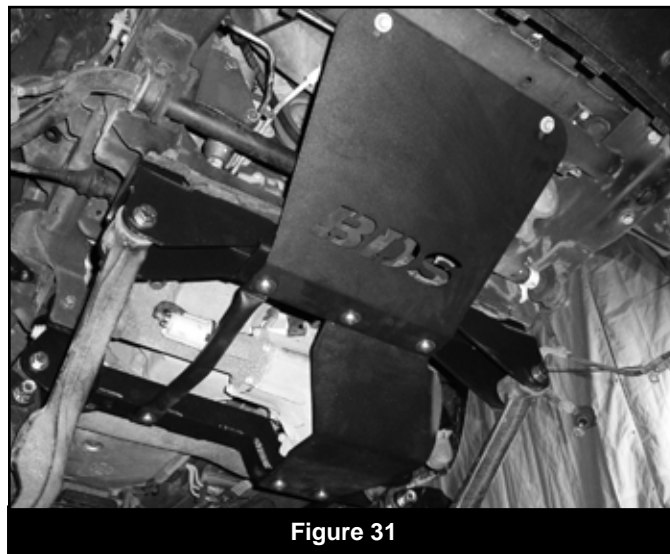

Figure 31
53. Optional: Locate the new front "BDS" skid plate/splash guard (02319). Loosely attach the skid plate to the original splash guard mounting holes on the upper frame crossmember using the original splash guard bolts. Position the skid plate up to the bottom of the front crossmember "sandwiching" the support tube and differential skid plate. Fasten the front skid plate, differential skid plate and support tube to the front crossmember with 1/2" x 1-1/2" bolts and washers (BP 581) in the welded nuts in the crossmember (Fig 31). Apply Loctite to the bolt threads and torque to 55 ft-lbs. Note: There will be 3 extra 1/2" bolts left over from bolt pack #791.